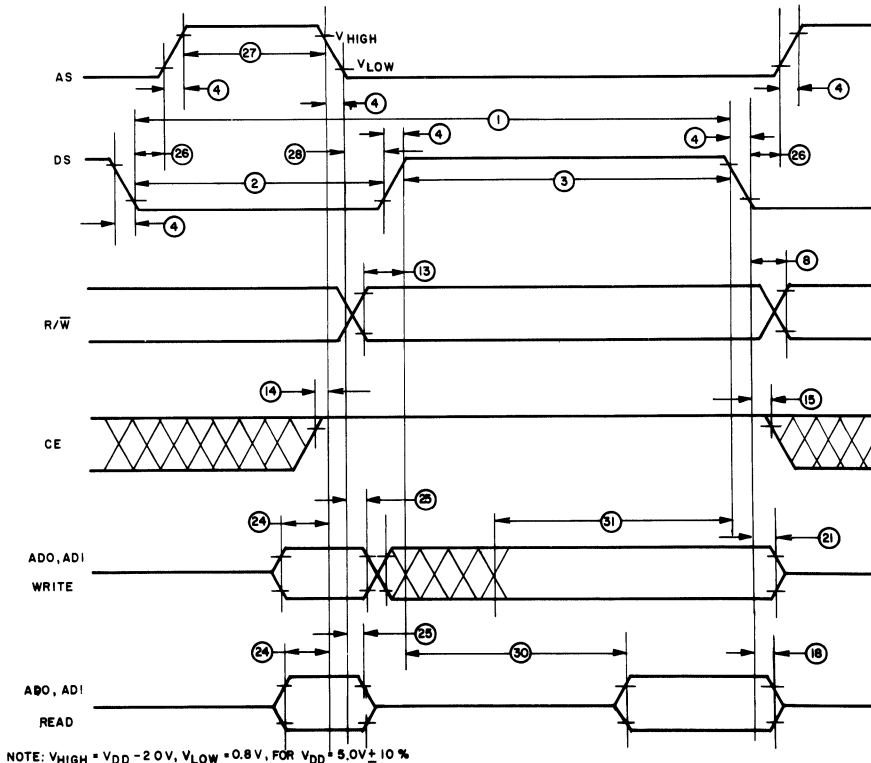

Fig. 23 - Bus timing waveforms of CDP6853.
**DYNAMIC ELECTRICAL CHARACTERISTICS—BUS TIMING,  $V_{DD} = 5\text{ V dc} \pm 5\%$ ,  $V_{SS} = 0\text{ V dc}$ ,  $T_A = -40\text{ to }+85^\circ\text{ C}$ ,  $C_L = 75\text{ pF}$ , See Figs. 23, 24, 25.**